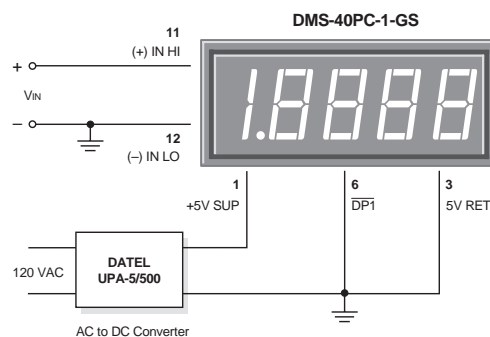

Figure 2. Single-Ended Input Configuration
1. **Single-Ended Input Configurations:** The DMS-40PC can measure single-ended signals with either positive or negative polarities. True single-ended inputs always have one of their two terminals at the same potential as the DMS-40PC's 5V RETURN (pin 3). Single-ended inputs are usually derived from power supplies that have a common ground with the meter's +5V supply. Figure 2 shows the recommended connections to be used with this type of input. Pin 12, (–) INPUT LO, is shown directly tied to ground. This connection to ground must be a separate wire or pc-board trace originating at  $V_M$ 's negative terminal. This hook-up will normally eliminate display instabilities and errors caused by ground-loop currents which can occur if (–) INPUT LO is tied to ground at, or near, pin 3.